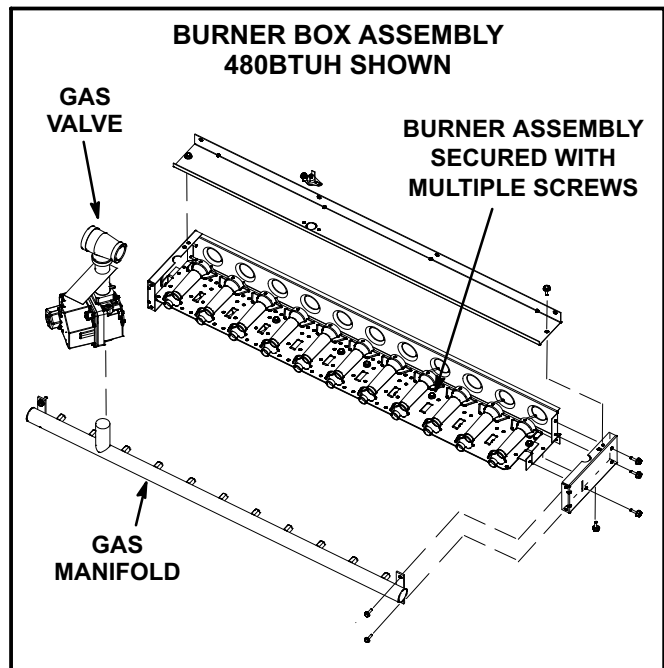

FIGURE 40
- 3- Remove screws securing burner assembly to burner support and remove assembly. See figure 40. Clean as necessary.